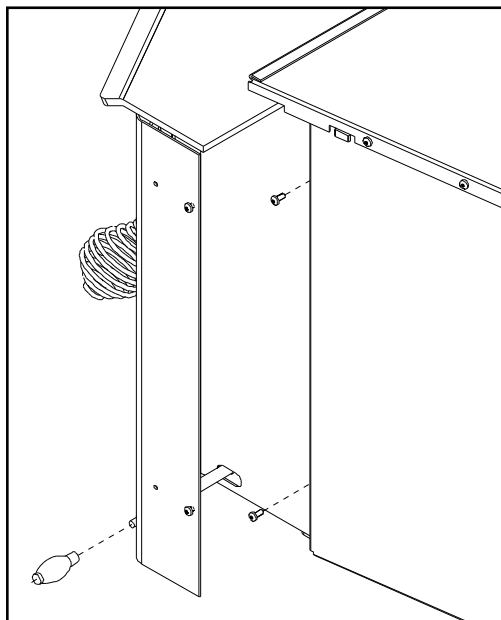

Figure 43: Removal of right pod.
- b. For the second method (recommended for the right shroud), remove the two (2) T-20 screws that hold the shroud to the unit (shown in Figure 43). Pull the shroud out through the side.